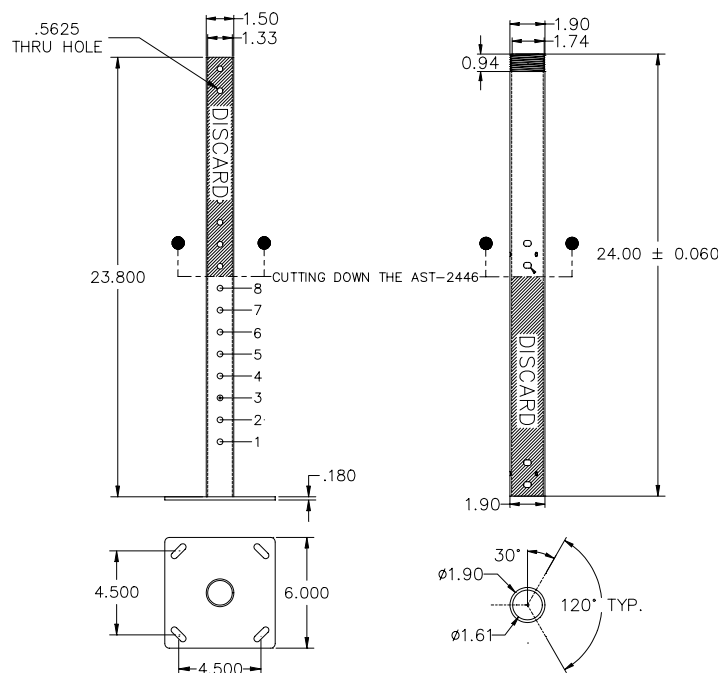

Figure 1.
1. Separate the upper pipe and lower tube. Install the upper pipe to the ceiling structure using commercial standards and commercially available suitable hardware (Figure 1).